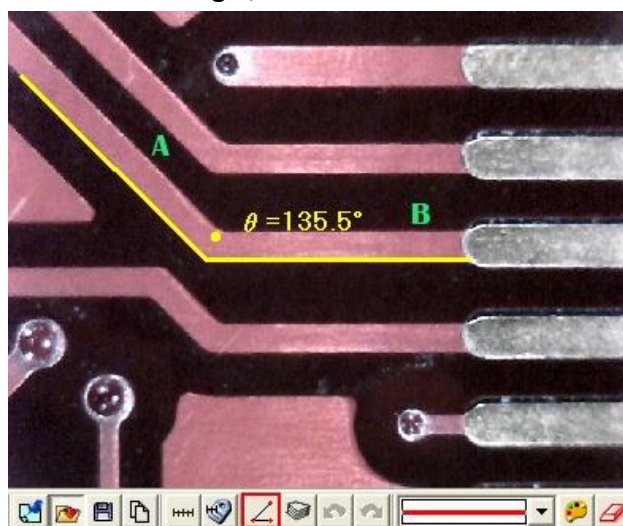

Fig 5-74 3 Points Angle
- (11) 3 Points Angle: Measure the angle on the object and use . In Fig. 5-74, it can see an angle on the object, draw a line and stop at the corner of angle, and then draw the other line from the angle; the angle can be automatically calculated. a dot shows the measured angle, it is 135.5 °.